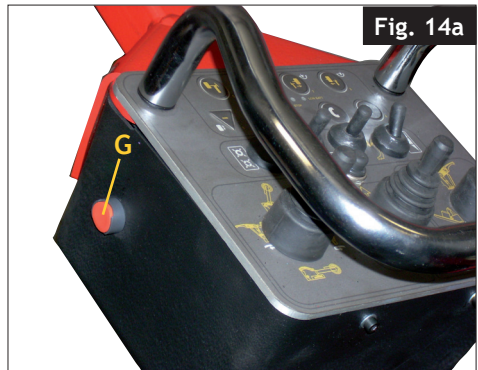

Fig. 14a
- Emergency button (G, Fig. 14a), positioned on the left side of the console, allows to cut off the power supply to all machine controls.
- Emergency button (G, Fig. 14a), positioned on the right side of the console, allows to cut off the power supply to all machine controls.